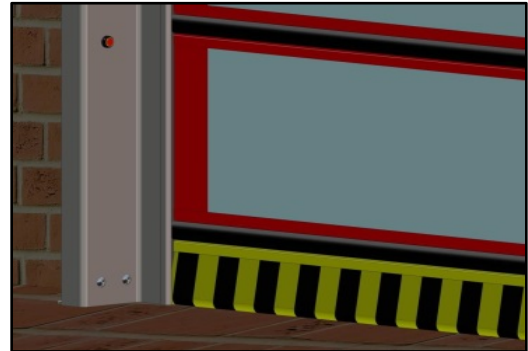

Figure 39
6. Lower the curtain panel until the bottom edge makes light contact with the floor. (See Figure 39)